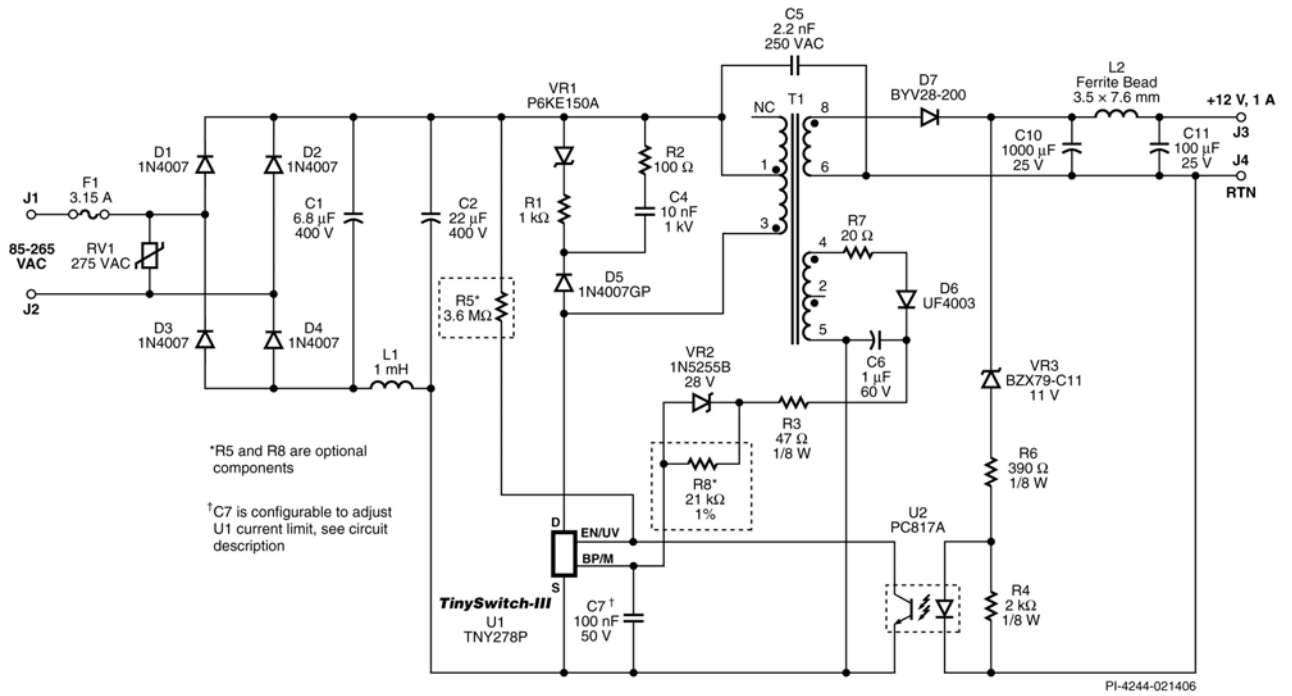

Figure 2 – EP91 Circuit Diagram.
This flyback power supply was designed around the TNY278P (U1 in Figure 2). The output voltage is sensed and fed back to U1 through optocoupler U2. That feedback is used by U1 to maintain constant voltage (CV) regulation of the output.